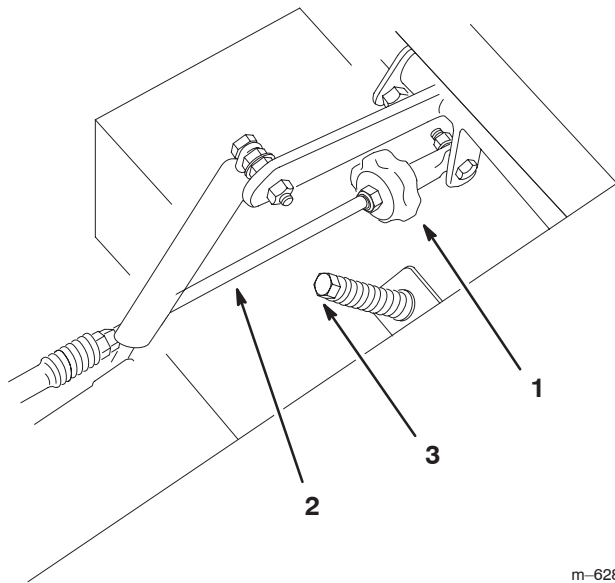

Figure 47
2. Adjust the pump rod length by rotating the knob in the appropriate direction until the wheel is still or slightly creeping in reverse (Fig. 47).